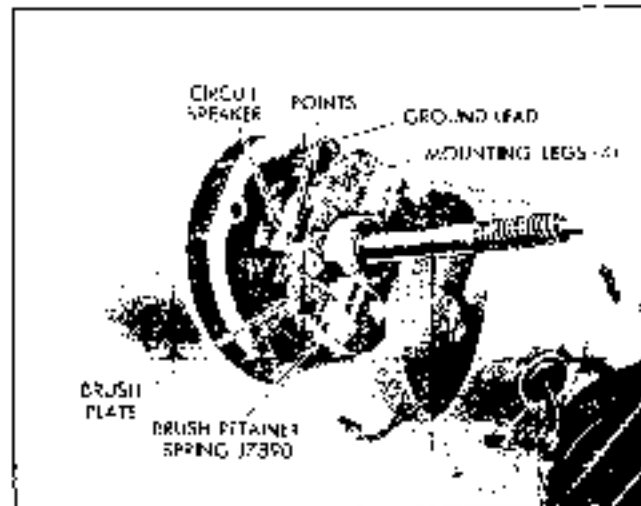

Fig. 12-33 Retrive Holding Brush in Place—Partrick
5. Unholder black ground lead from circuit breaker terminal, (Fig. 12-33).
7. Install U shaped brush retainer clip J 7890 over brush holder that has brush lead attached to circuit breaker (Fig. 12-33).